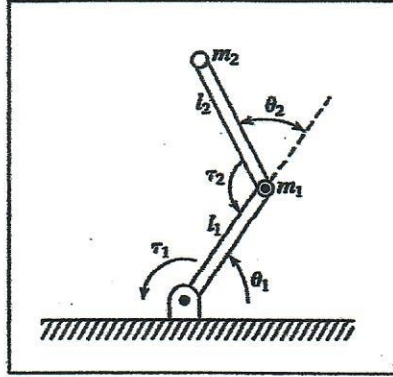

Figure 2. Two-link Planar Manipulator
2. Consider the two-link planar manipulator shown in Figure 2.